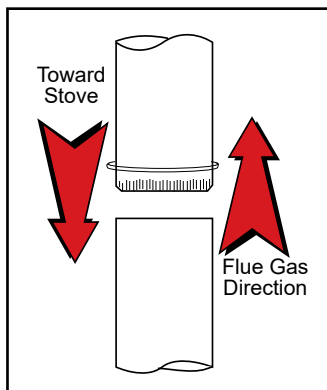

Figure 4 - Chimney connector.
- Begin assembly at the flue collar of the stove. Insert the first crimped end into the stove's flue collar, and keep each crimped end pointing toward the stove. (Figure 4) Using the holes in the flue collar as guides, drill 1/8" (3 mm) holes in the bottom of the first section of chimney connector and secure it to the flue collar with three #10 x 1/2" sheet metal screws. Lift off the griddle, and shield the stove's surface between the griddle opening and the front of the flue collar to protect the finish when you drill the front hole.